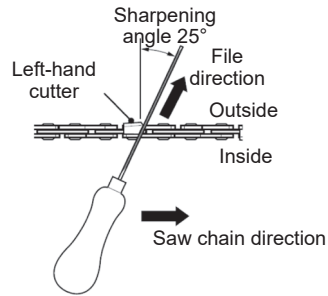

Fig. 41
- > File at an angle perpendicular to the bar, and at an angle of  $25^\circ$  to the direction of travel (Fig. 41).